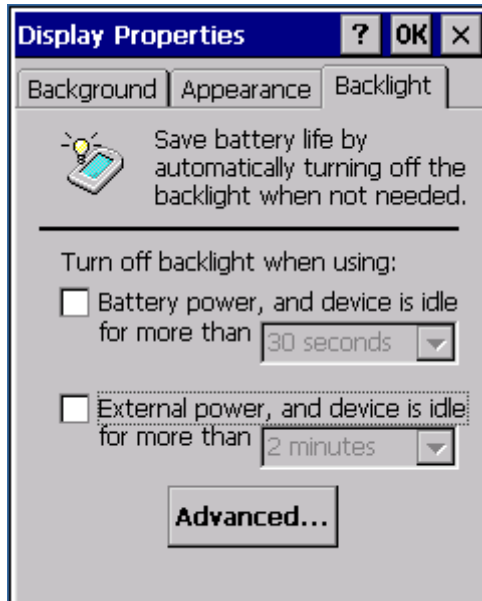

Figure 4.11 Selecting the Background Tab
4. Select the Backlight tab, clear the two options on the tab, and then click **OK** at the top right corner of the window (Figure 4.11).